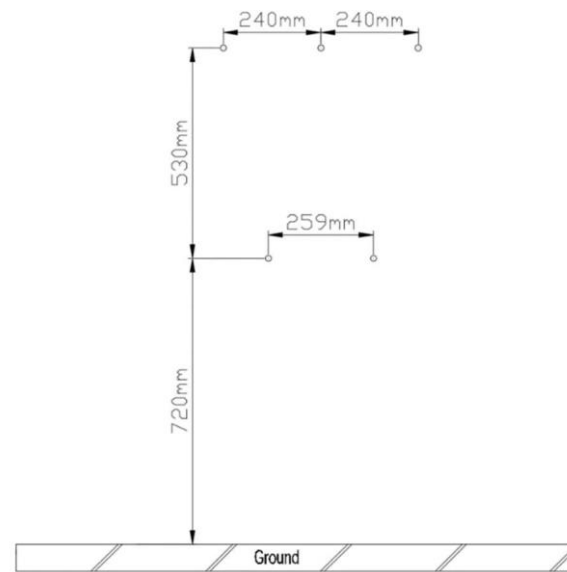

Figure 8 Marking the installation hole position
(1) Select the load-bearing wall where the charger is to be installed, locate the hole position of the wall-mounted charger, and mark the position of the hole with a pencil, as shown in Figure 8.